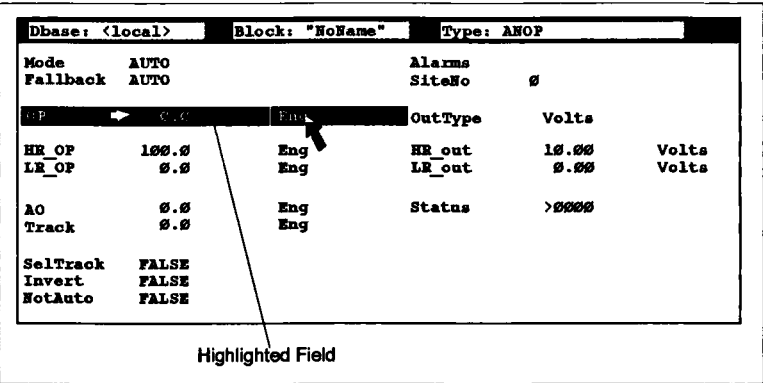

Figure 9.2 Typical Function Block Specification Menu (ANOP)
■ **Querying Function Blocks.** The block's *Specification Menu* appears. This is a page showing all the configurable parameters for that block. Inspect and/or enter values for all or some of the block parameters; i.e. *parameterise* the block; the data is stored in the strategy database file. Figure 9.2 shows a typical block menu (ANOP). Inputting data to a Specification Menu is described in Chapter 7, under *On-Screen Data Entry*. To query blocks inside a *compound* first zoom the compound; see next section.